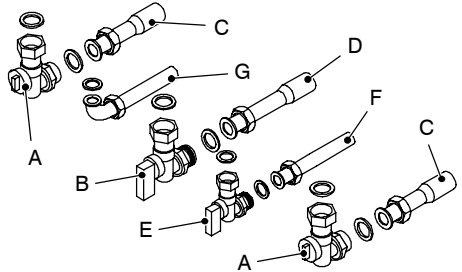

Fig. 6.3
- 4 Fix the c.h. valves A and gas cock B ($\frac{3}{4}$ " to the boiler using the $\frac{3}{4}$ " gaskets (Fig. 6.3)